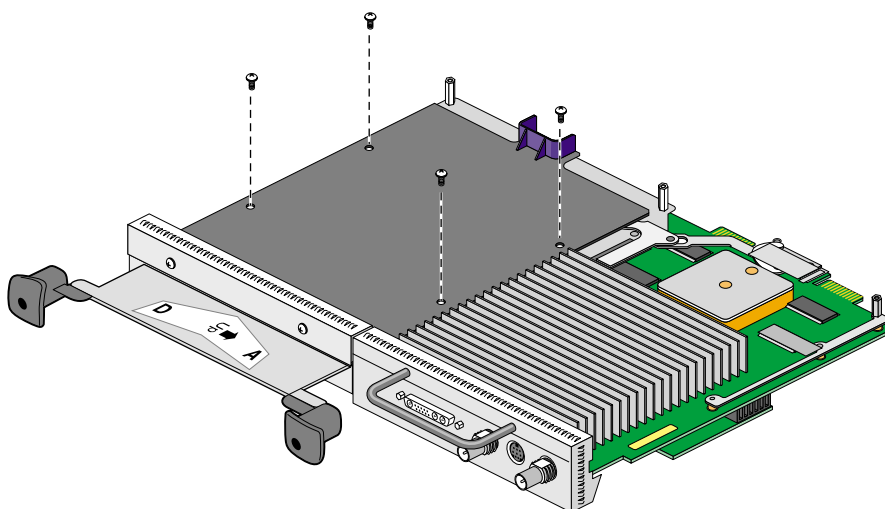

Figure 2-11 Removing the Screws from the Blank Panel
1. Using the supplied Phillips reversible screwdriver, remove the screws from the option board or blank panel occupying the desired slot, as shown in Figure 2-11.